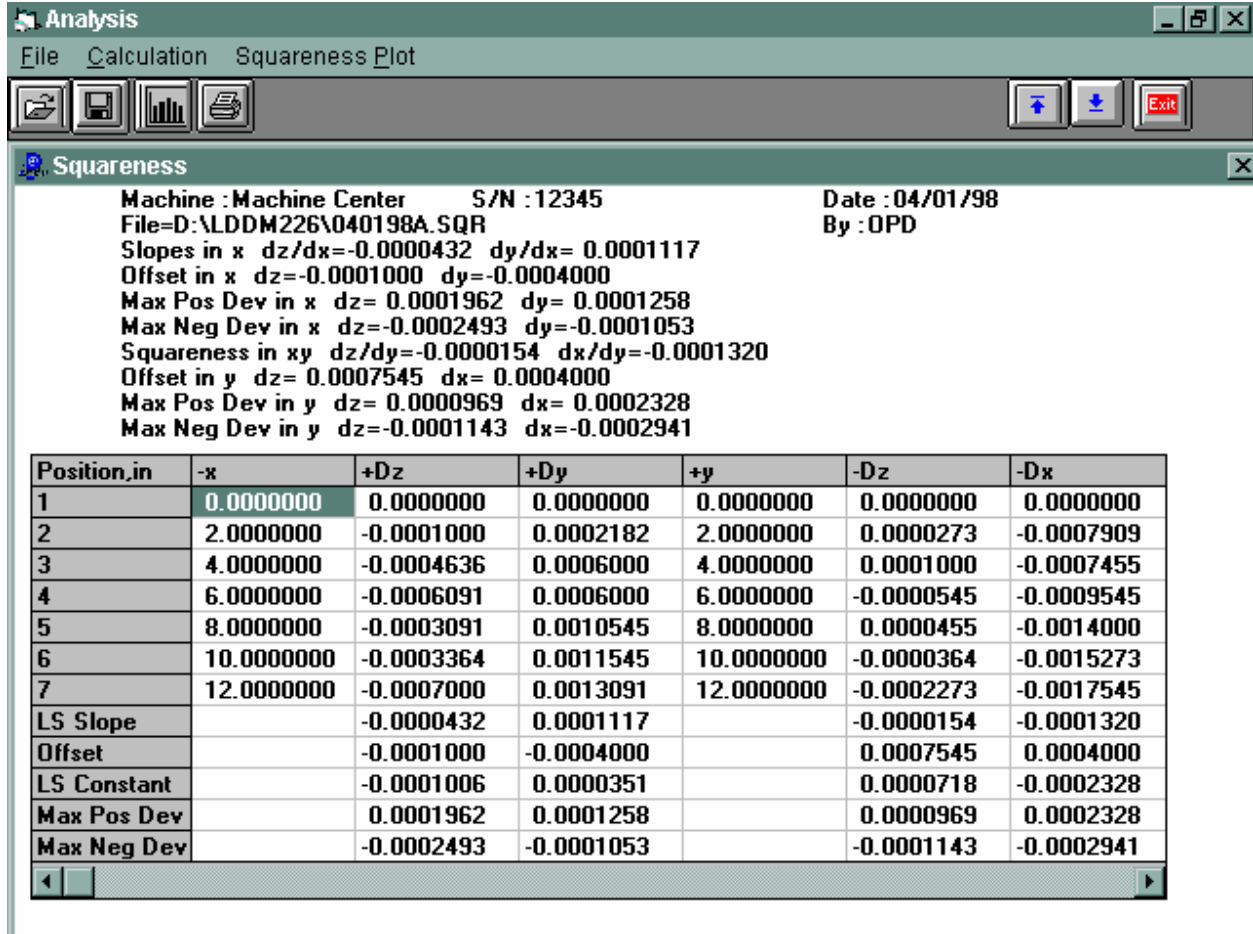

Fig. 7-5 Squareness Measurement Data Table
7.4 Squareness Data Analysis (Fig. 7-5, 7-6)